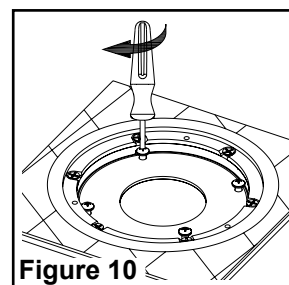

Figure 10
Step 22 – Start threading all 4 outlet screws from bag “C”. See **Figure 10**.